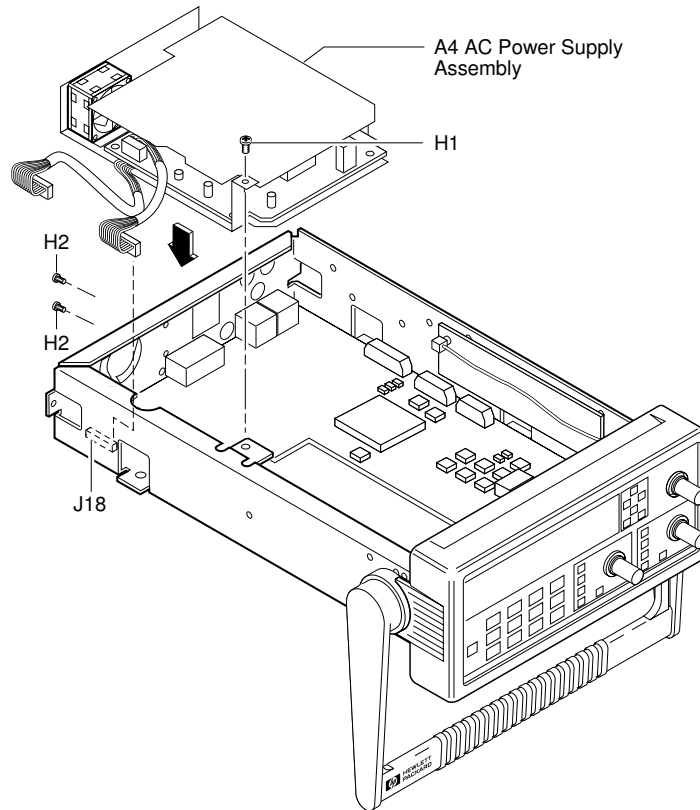

Figure 4-1B. DC Power Input Assembly Retrofitting
- 7 **To install the new A4 AC Power Supply Assembly (53132-60207), connect the ac power supply's shorter cable to connector J18 on A1 Motherboard Assembly as shown in Figure 4-1B.**
- 8 **Insert and tighten the two TORX 10 screws (H2) to attach A4 Power Supply Assembly to the rear of the chassis as shown in Figure 4-1B.**
- 9 **Insert and tighten the TORX 15 screw (H1) into the upper-middle of the chassis as shown in Figure 4-1B.**